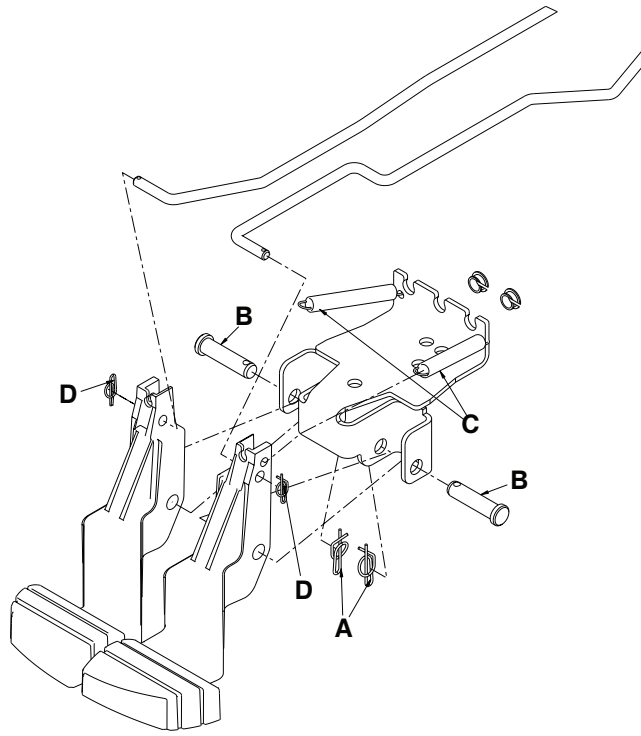

Figure 17 – Replace the release pedal
3. Disconnect the release pedal return springs (C) from the foot end release pedals (Figure 17).